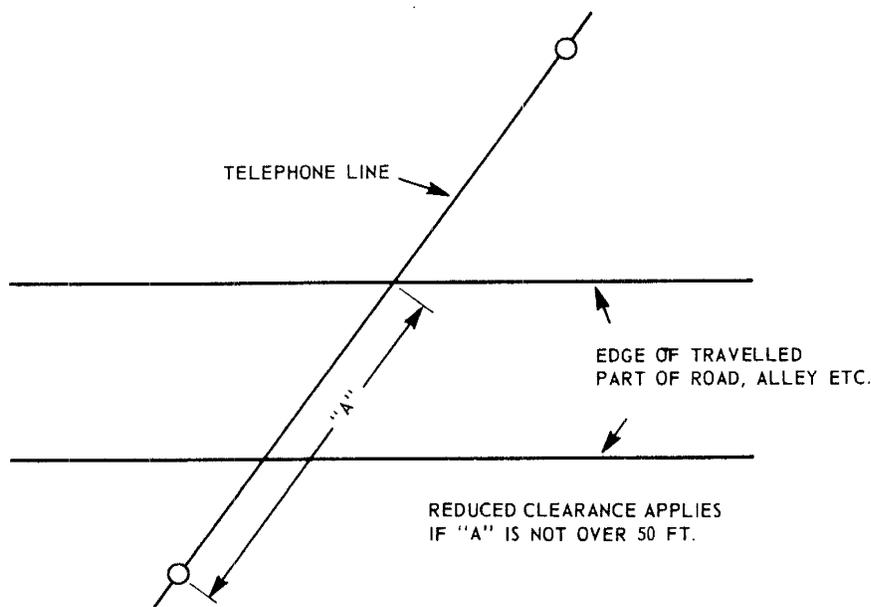

Fig. 1
1.05 When drop wire sags exceed about two or three feet, it will generally be quite advantageous to locate poles so as to avoid having the middle of the crossing span occur above the travelled part of the road, alley, or driveway. This will frequently be the case when the pole is within 50 or even 75 feet of the far edge of the road, alley or driveway, (distance "A" in Fig. 1).
| Pole not over 50 ft from far edge# | Fig. 1 | 18-0 | 18-3 | 18-6 | 18-11 | 19-3 | (18-0) | (18-1) | (18-3) |
| Pole not over 50 ft. from far edge | Fig. 1 | 15-0 | 15-3 | 15-6 | 15-11 | 16-3 | (15-0) | (15-1) | (15-3) |
| Pole not over 50 ft. from far edge | Fig. 1 | 10-0 | 10-3 | 10-6 | 10-11 | 11-3 | (10-0) | (10-1) | (10-3) |
| Public Roads Generally# Pole not over 50 feet from far edge# | — Fig. 1 | 21-3 19-8 | 22-4 20-1 | 23-5 20-5 | (19-9) (18-7) | (20-6) (18-10) | (21-3) (19-0) |
| Public Alleys Generally Pole not over 50 feet from far edge | — Fig. 1 | 18-3 16-8 | 19-4 17-1 | 20-5 17-5 | (16-9) (15-7) | (17-6) (15-10) | (18-3) (16-0) |
| Resid. Driveways Generally Pole not over 50 feet from far edge | — Fig. 1 | 13-3 11-8 | 14-4 12-1 | 15-5 12-5 | (11-9) (10-7) | (12-6) (10-10) | (13-3) (11-0) |
| Pole not over 50 feet from far edge# | Fig. 1 | 18-3 | 18-6 | 19-3 | 20-1 | (18-0) | (18-5) | (18-10) |
| Pole not over 50 feet from far edge | Fig. 1 | 15-3 | 15-6 | 16-3 | 17-1 | (15-0) | (15-5) | (15-10) |
| Pole not over 50 feet from far edge | Fig. 1 | 10-3 | 10-6 | 11-3 | 12-1 | (10-0) | (10-5) | (10-10) |